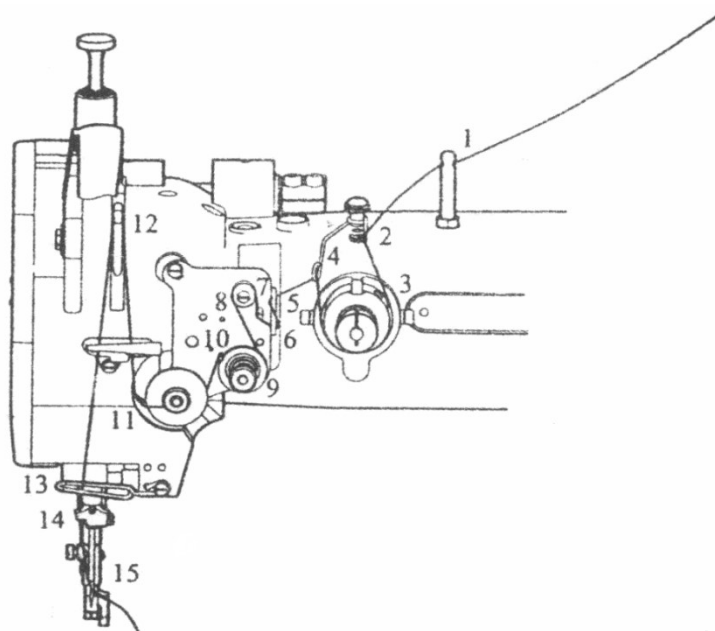

Fig. 1
** Please, as the step on the left fig 1 to set the thread